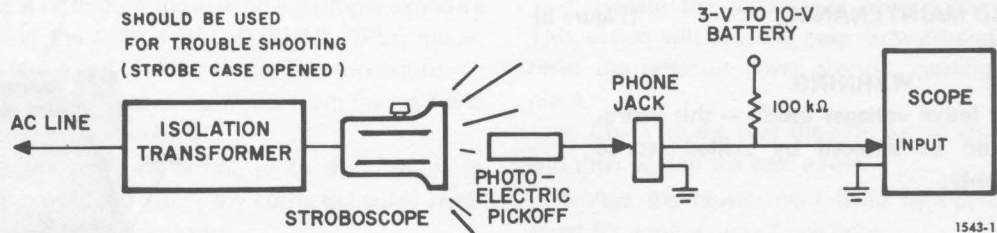

Figure 6. Calibration setup.
- a. Make the setup shown in Figure 6 and adjust the oscilloscope controls as follows: